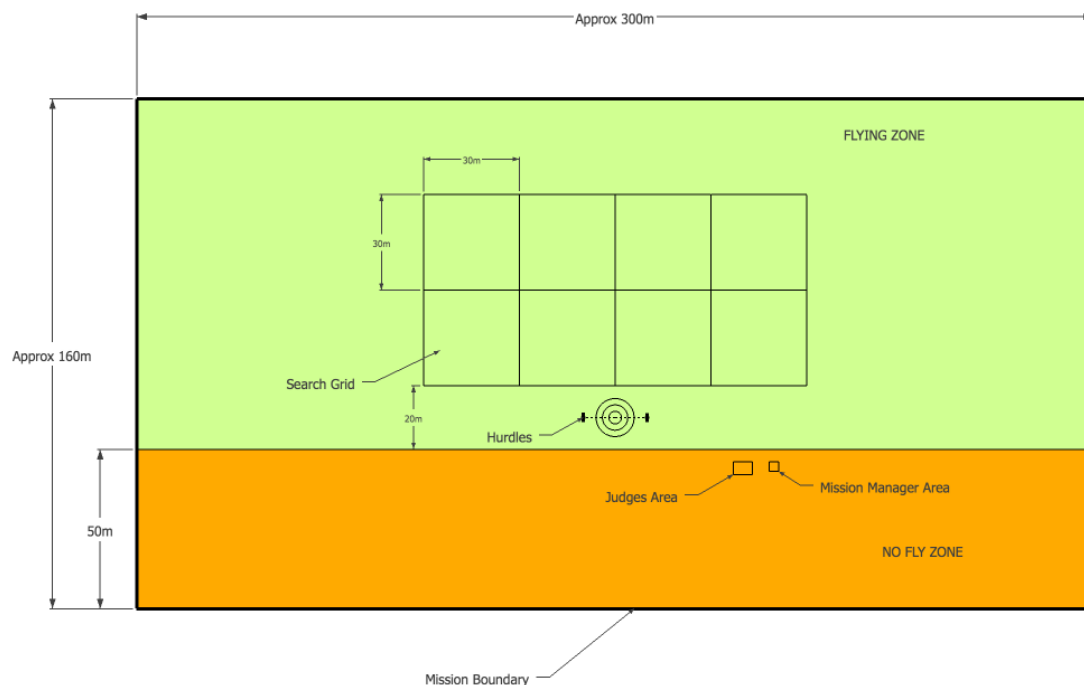

Figure 2 General Layout of the Search Phase
A total of 8 markers will be placed in a search area in the flying zone as indicated in Figure 2, with one marker per grid sector. Five (5) or more of these markers will have a symbol that will only be visible from above. Each team that elects to conduct the search must determine the symbol that is on each marker using their airborne